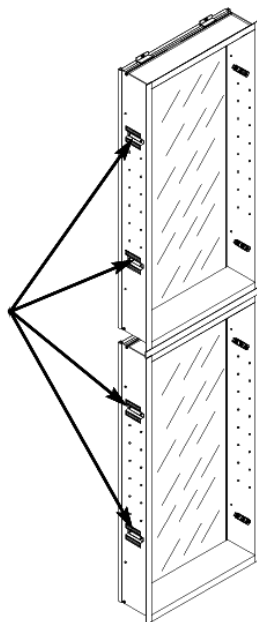

FIG 11
- 6a. Using 10-32 x 1/2" machine screws, attach side kit mounting brackets. (Fig 11)
11. Using 10-32 x ½" machine screws, attach side kit mounting brackets (Fig 11).